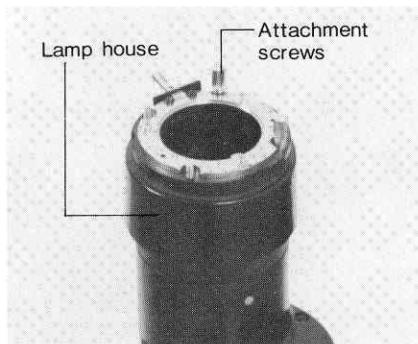

Fig. 59
- (a) Remove the plug connected to lamphouse ⑩, raise and remove the cover by turning it counterclockwise.
- (b) Unscrew four knurled lamphouse attachment screws and pull the lamphouse up. (See Fig. 59)